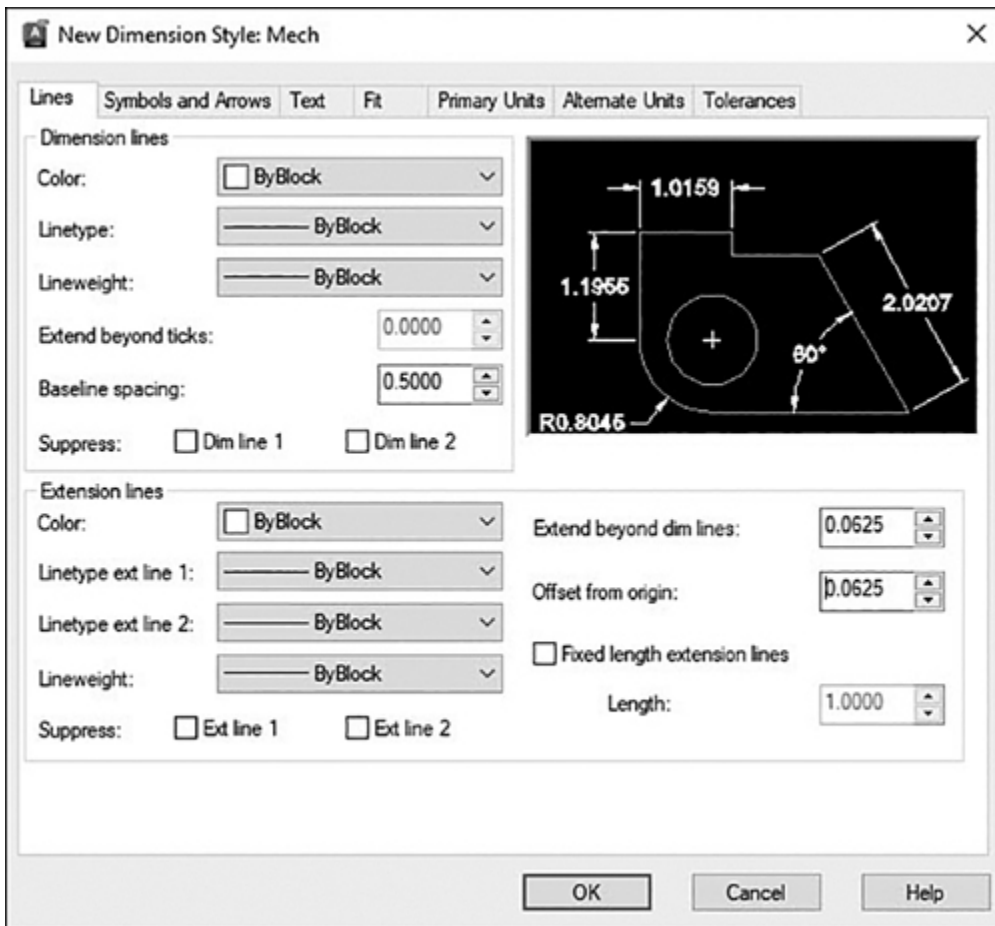

Figure 13-101
2. Create a dimension style called **Mech** based on the **Standard** dimension style. Use the settings shown in Figures 13-101 through 13-104.
2. Create a dimension style called **Mech** based on the **Standard** dimension style. Use the settings shown in Figures 13-101 through 13-105. *Hint:* You can use **DesignCenter** to drag and drop the dimension style from the mechanical drawing templates.